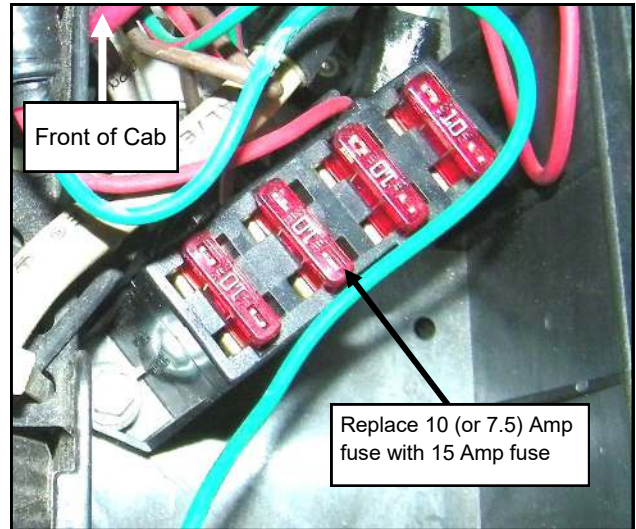

Fig. 4.3
- 4.3 Replace the 10 Amp fuse (or 7.5 if cab is installed) with supplied 15 Amp ATO/ATC fuse. (Figure 4.3) Reattach the cover onto the electronic component box. Tighten screw to 17 in./lbs. (1.9 Nm).